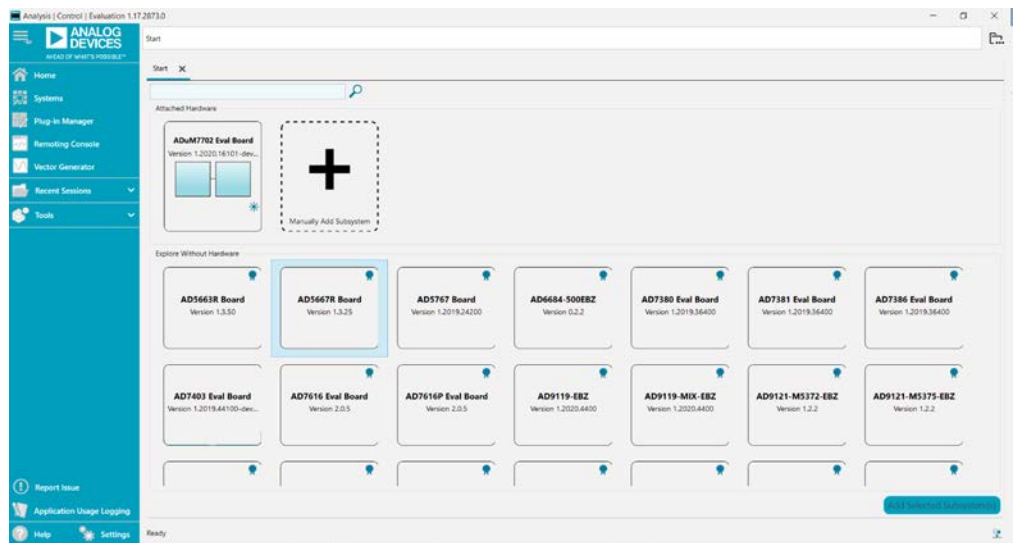

Figure 12. ACE Software Main Window
1. In the **Start** menu of the PC, click **All Programs > Analog Devices > ACE > ACE.exe** to open the ACE software main window shown in Figure 12.
3. Double click the **ADuM7702 Eval Board** icon (see Figure 12) to open the chip view window shown in Figure 13.
USB port via the SDP-H1 when the ACE software launches, the **ADuM7702 Eval Board** icon does not appear in the **Attached Hardware** section in ACE (see Figure 12). To make the **ADuM7702 Eval Board** icon appear, connect the EV-ADuM7702-8FMCZ and the SDP-H1 to the USB port of the PC, wait a few seconds, and then follow the instructions in the dialog box that opens.